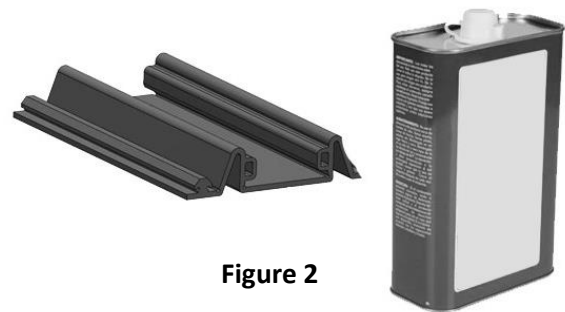

Figure 2
flush to substrate to ensure a weathertight seal. Extrusions should be setback from wall face by ¼” as shown in Figure #1. **See Figure 2.**
2. Apply a bead of sealant (by installer) into the wall extrusion channel as shown. Attach the aluminum extrusions to the concrete wall using  $\text{Ø}3/16$ " Tapcon anchors. For other substrates, use appropriate fasteners and methods. Extrusion should be flush to substrate to ensure a weathertight seal & set back  $1/4$ " from wall face as shown in Figure #1. **See Figure 2.**
**See Figure 2**